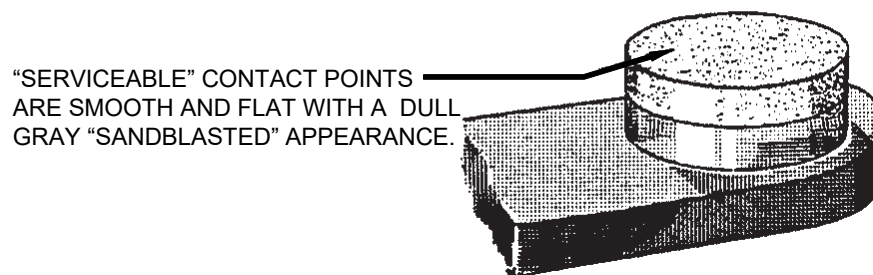

Figure 6-2. Normal Contact Point
4. Examine contact points for wear or burning. Figure 6-2 shows how a typical contact point will look when the surfaces are separated for inspection. Desired contact surfaces have a dull gray, sandblasted (almost rough) or frosted appearance, over the area where electrical contact is made, indicating the points are wearing evenly and mating properly. Replace burned, pitted, peaked or otherwise damaged contact assemblies.